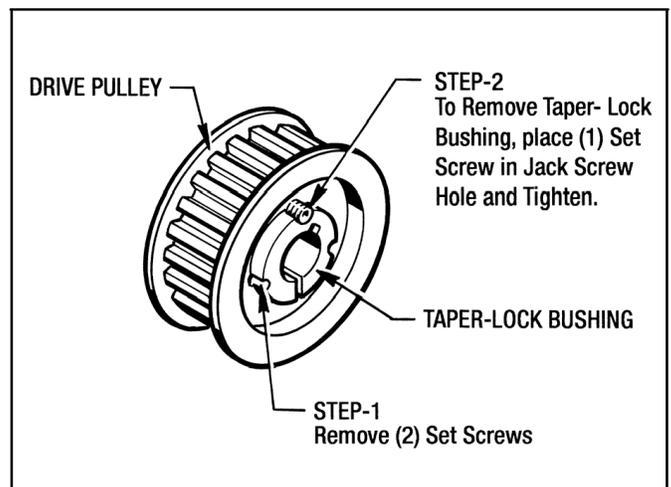

Figure 7.2 - Removing Drive Pulley
2. Loosen the belt tension by backing-off the (4) top Jam Nuts (#152). Remove the Timing Belt from the Pulleys.
3. Unscrew the (4) motor hold-down bolts and with an overhead hoist remove the Drive Motor.
4. Take the Pulley off the Posidyne Input Shaft. (See Figure 7.2 for procedure.)